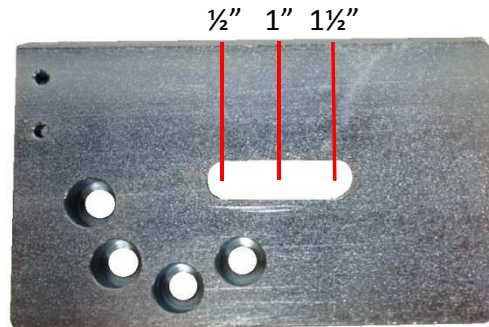

Figure 16: Stroke Length for a 90° Rotation
b. **Adjust the stroke length of the valve stem** – As the actuator shaft rotates, the valve stem will move in and out of the controller to control oil flow into the burner. For a 90° rotation of the actuator shaft, the stroke length of the valve stem can be adjusted between ½" and 1½". The assembly ships at a default stroke length of ¾". See Figure 16 below that shows where to position the threaded rod in order to achieve the desired stroke length.